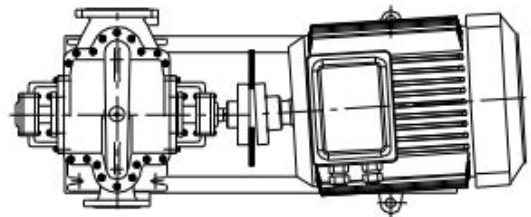

Fig. 4a. Angle error in horizontal plane and to settle
• Alignment errors can be either on vertical plane or horizontal plane. On vertical plane alignment is corrected by inserting shims under the pump or motor foot, and on horizontal plane alignment is corrected by sliding the pump and/or motor horizontally sideways by using the gaps at mounting holes. **Fig. 4a, 4b, 4c, 4d** show alignment of coupling step by step.